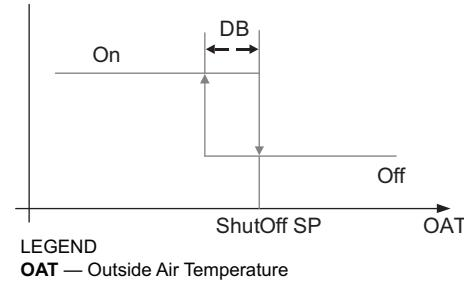

Fig. 74 — Hysteresis Settings
Hysteresis setting (DB) defaults to 2°F (−17°C). See Fig. 74.